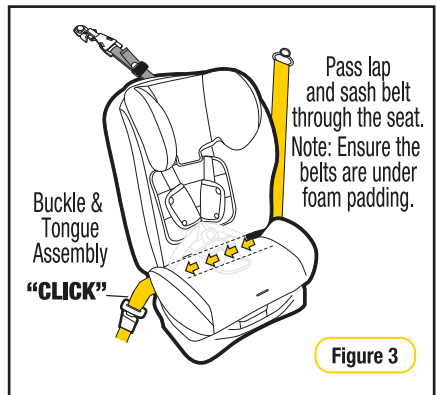

Figure 3
**Step 4:** Check to sight the location of the appropriate shoulder slots (in main shell), refer Figure 3.